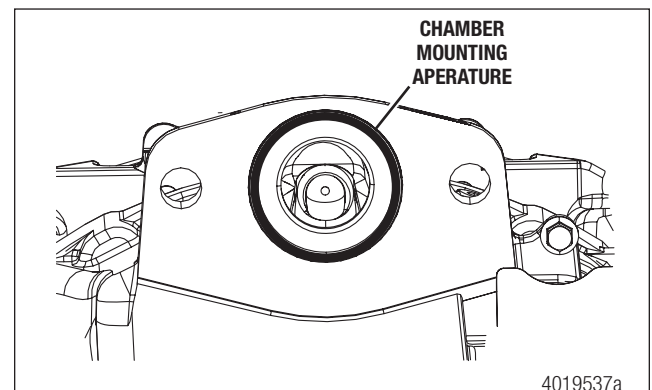

Figure 16
- Visually inspect the chamber-mounting aperture on the old caliper housing assembly for signs of water entry and corrosion. If signs of water entry and corrosion are present, replace the brake chamber. Figure 16.